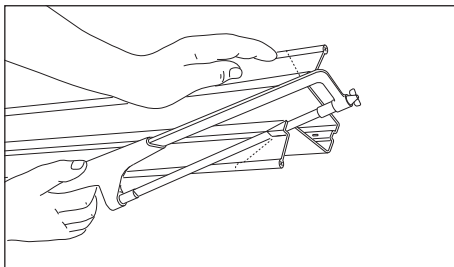

Fig. 6 – Make angled cut, if required
- 7 Trim top flanges of batten section to maintain angle of external corner of hip. If necessary, make a horizontal cut in walls of batten section, to enable it to fit over fascia upstand (Fig. 6).